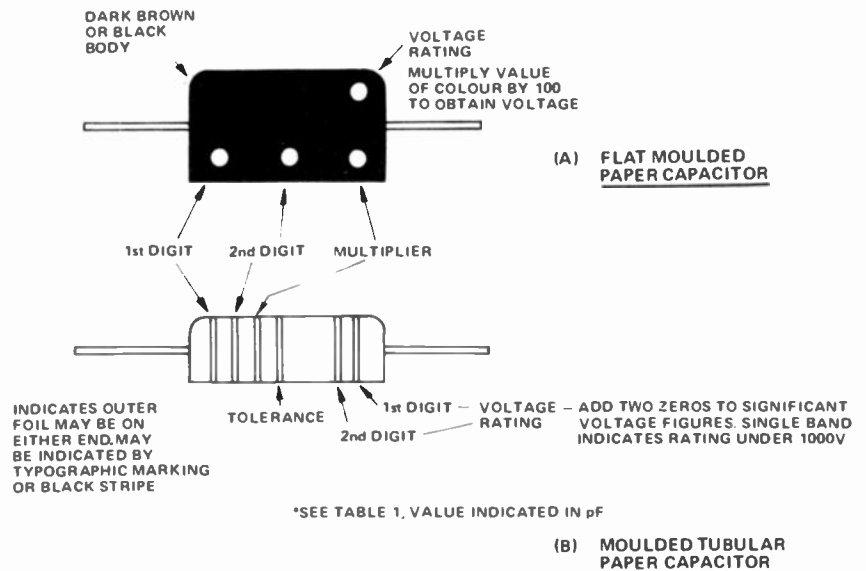

Fig. 14. Paper capacitor colour codes.
Paper Capacitors: Paper capacitors are large enough to have the value, tolerance and rating printed directly on them. The flat moulded style, largely superseded, now uses a code of four coloured dots, similar to that used on flat moulded mica capacitors. Figure 14(A) illustrates the code for flat moulded paper capacitors. Note that the body will be dark brown or black in contrast to the light tan bodies used on flat moulded mica capacitors. The capacitance and voltage rating may be obtained from Table 1.
Moulded tubular paper capacitors are sometimes marked with a colour code as illustrated in Fig 14(B). The capacitance and tolerance may be obtained from Table 1. The voltage rating is indicated by one or two coloured bands at the end opposite the value. Add two zeros to the significant figures. A single band indicates a rating under 1000 volts. A gold band indicates a rating of 1000 volts. The value is indicated in pF.